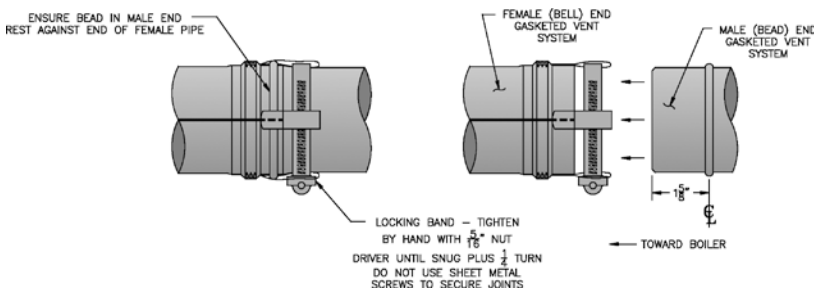

Figure 8A: Burnham Gasketed Vent Joint Detail
1. Procedure for Joining Burnham Gasketed Vent Pipe and Fittings. See Figure 8A.